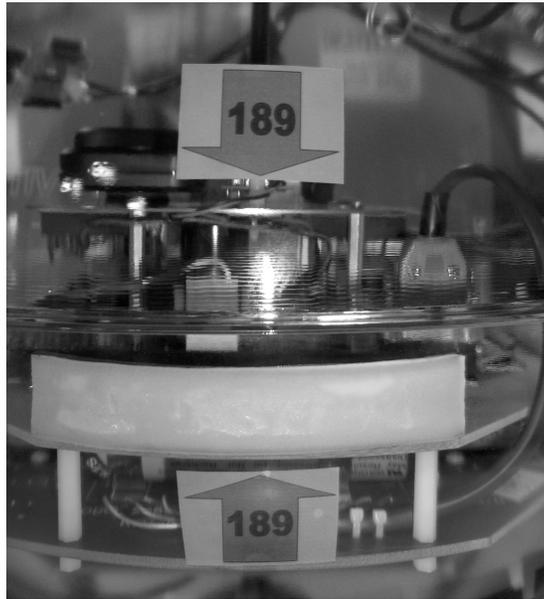

Figure 7-1 Hemisphere Alignment - Yellow Arrows
IMPORTANT: While reading this chapter and assembling an IES, refer to Figures 7-1 thru 7-3 to see the proper positioning of alignment arrows, lifting straps, cables, etc.. The alignment of ALL parts during the assembly process is critical for successful operations.
11. Close the hemispheres and align their outside edges. Rotate the top hemisphere to align the yellow arrows and serial numbers of the glass. ***Make sure that both hemispheres have matching serial numbers and are aligned as shown in Figure 7-1.***
*Warning: During this assembly procedure, the “upper” hard hat is actually **under** the “lower” hard hat. In the following steps, don’t get the terminology mixed up... “upper” and “lower” refer to names of the hard hats, as shown in Figure 7-1, and not to their position in this assembly process.*